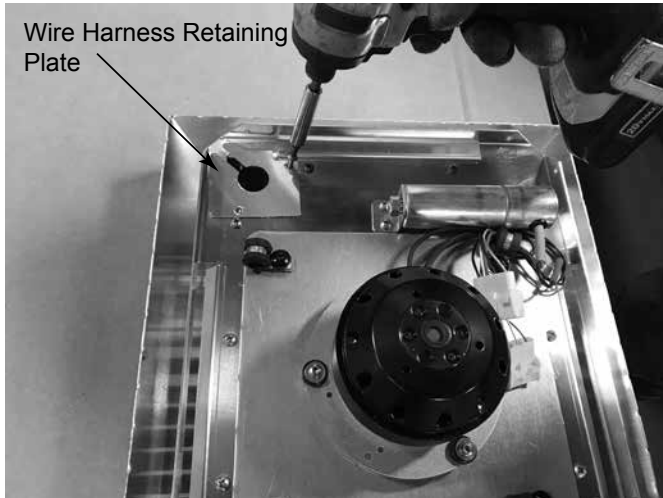

Figure 7.18
- Remove wire harness retaining plate from motor assembly, (2) screws. See Figure 7.18.